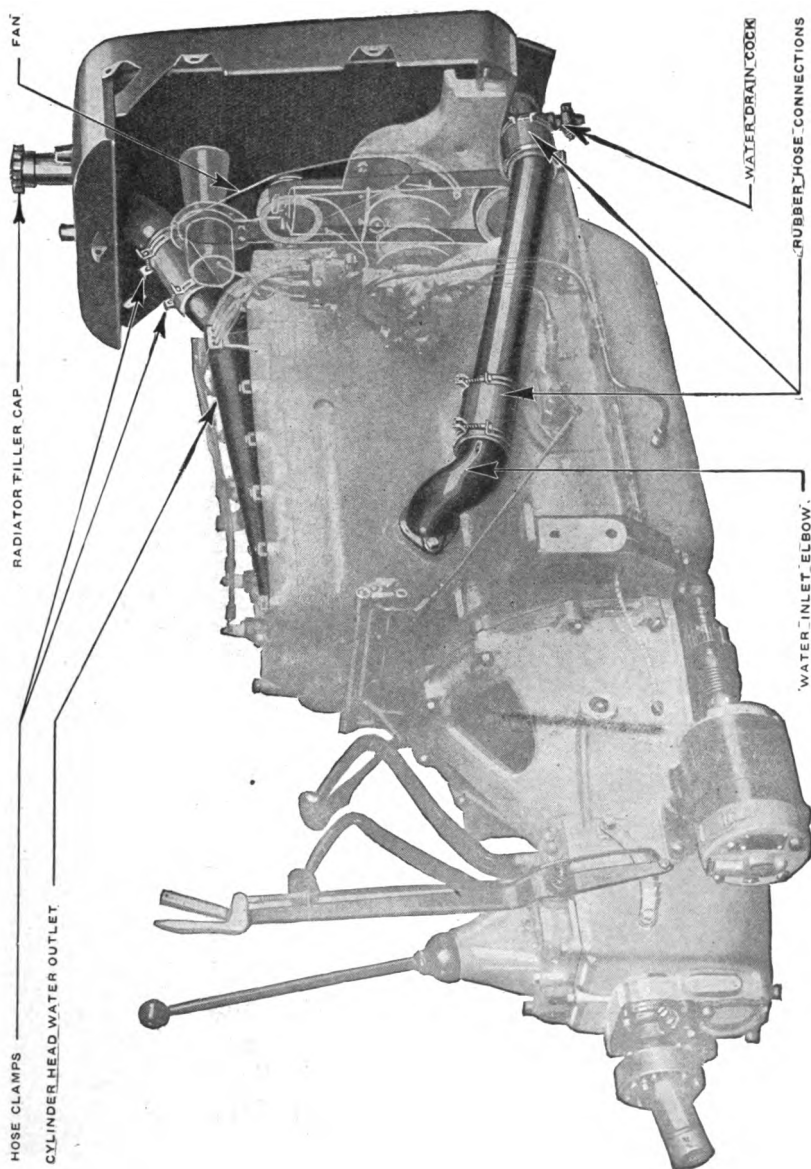

Fig. 24. Thermo-Siphon Cooling System of the Chalmers Motor
**Cooling System.** The water circulation system is clearly illustrated in Fig. 24. As the explosions develop a great deal of